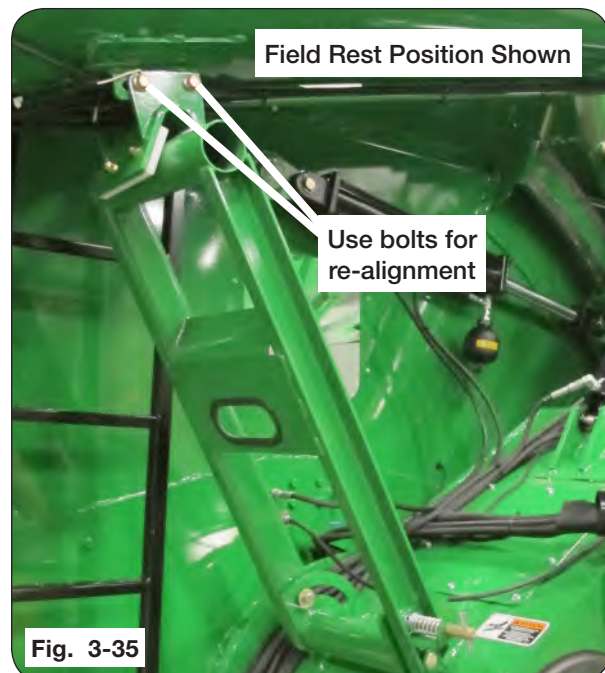

Fig. 3-35
3. Fold auger back to field rest position (Figure 3-35), making sure bracket engages the auger rest tube and activates the auger switch.
**NOTE:** Auger rest bracket is factory adjusted. Bolts can be used for re-alignment of bracket. See Fig. 3-35.